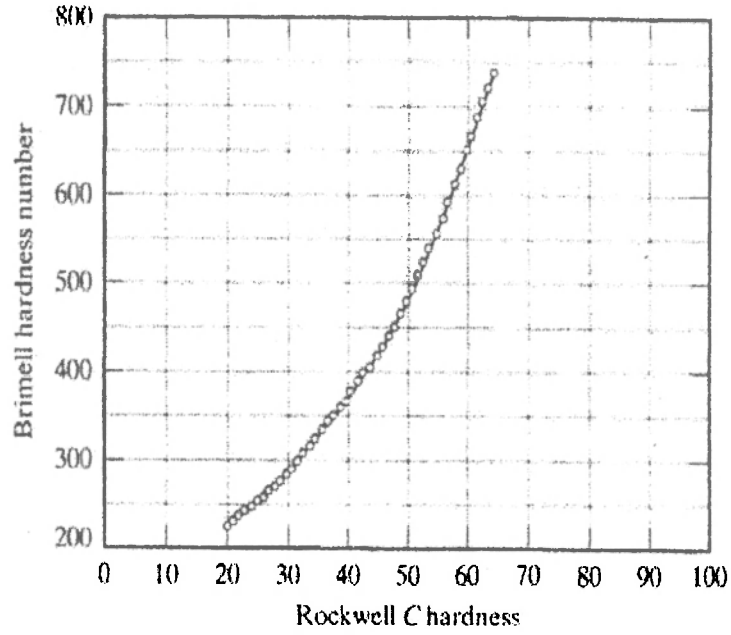

FIGURE 3
i) Select the appropriate steels via hardenability procedure by using the given charts (Refer to FIGURE 3,4 and 5).